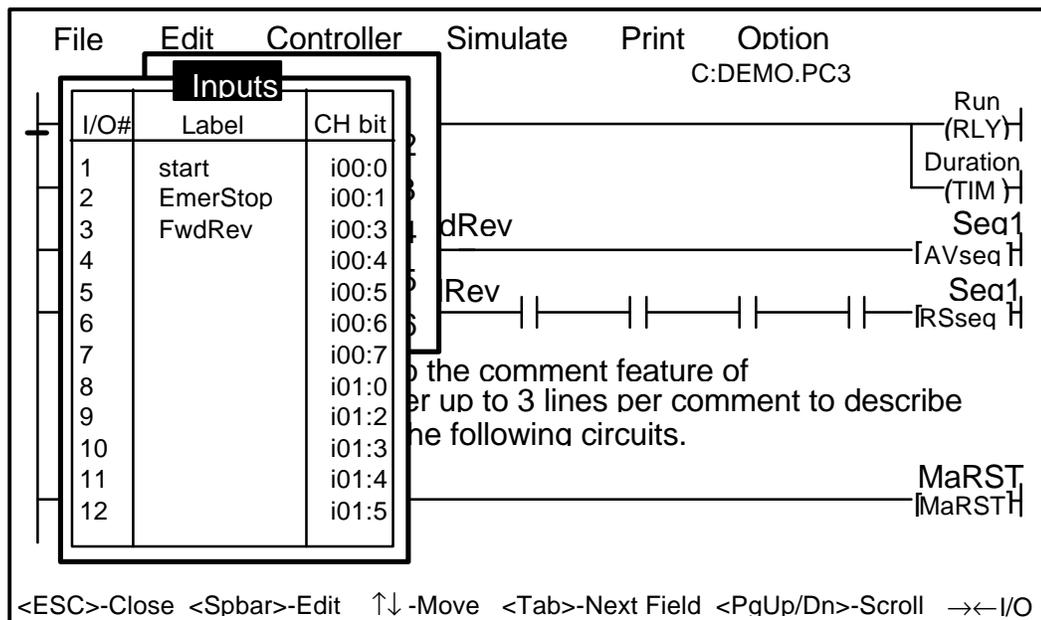

Figure 2.5
12. Select "Input" from the pull-down menu. An input table should pop up on the screen as in Figure 2.5. The bottom help status line changes instantly to show you the usage of keys for i/o table editing. Use the four cursor keys or <PgUp> and <PgDn> keys to move the selection bar within the table. Up to 128 inputs can be defined in the input tables. Spend some time navigating to all corners of the table now.